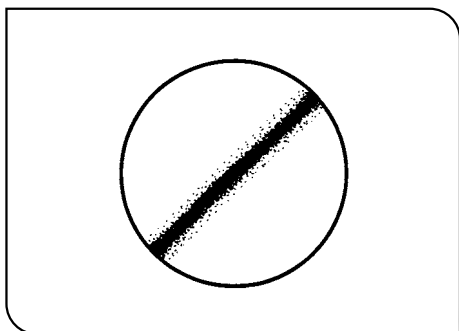

Fig. 37
4. Remove the eyepiece from the eyepiece sleeve, look into the sleeve, turn the polarizer rotation dial ② so that the black interference stripe (Fig. 37) is darkest, and tighten the clamping knob ③.